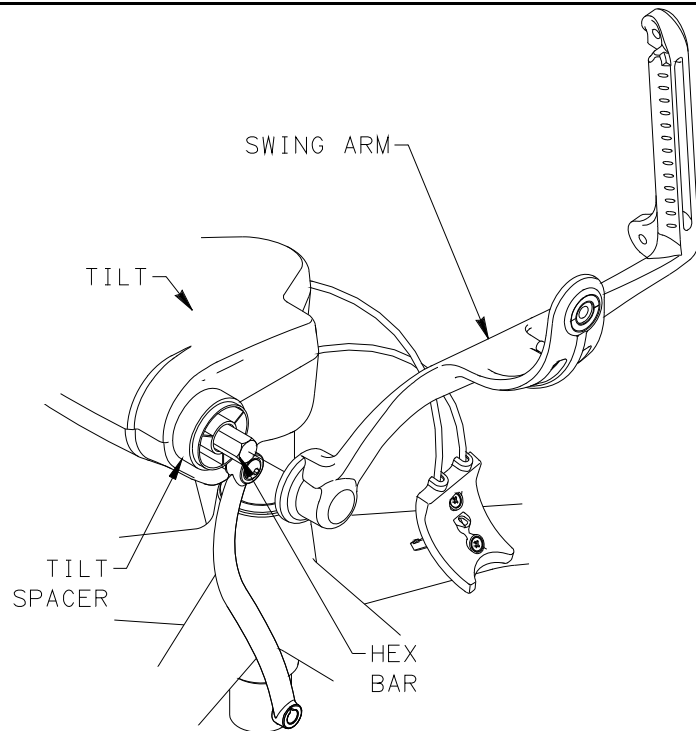

FIGURE 12
- CHAIRS MANUFACTURED AFTER 9-16-96: SLIDE SWING ARM FROM TILT AND DISPOSE OF PROPERLY. SEE FIGURE 12.
8. SLIDE REPLACEMENT SWING ARM ONTO HEX BAR, UP TO TILT SPACER, KEEPING SAME ORIENTATION TO HEX BAR AS OPPOSITE SWING ARM. SEE FIGURE 12.
-CHAIRS MANUFACTURED AFTER 9/16/96: SLIDE SWING ARM FROM TILT AND DISPOSE OF PROPERLY. SEE FIGURE 12.
8. SLIDE REPLACEMENT SWING ARM ON TO HEX BAR, UP TO TILT SPACER, KEEPING SAME ORIENTATION TO HEX BAR AS OPPOSITE ARM. SEE FIGURE 12.